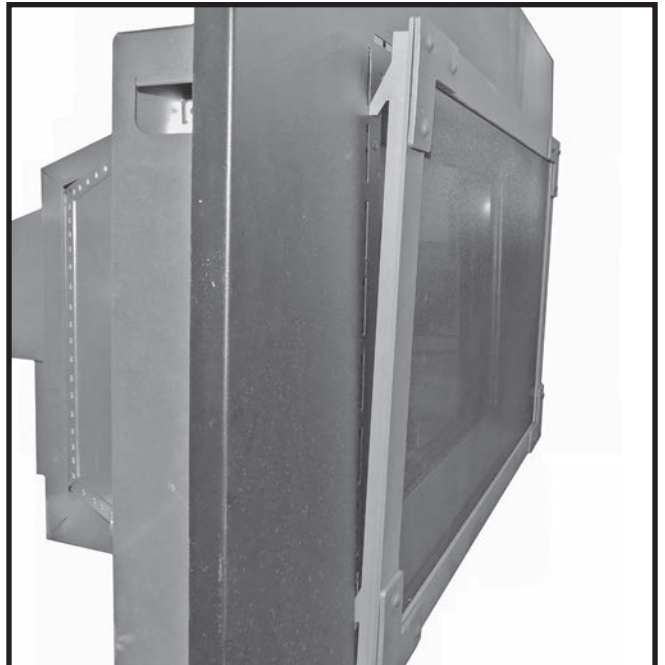

Figure 86: Mounting the decorative front.
3. Install the decorative front by inserting its four hooks into the corresponding slots on the backing plate (Figure 86).